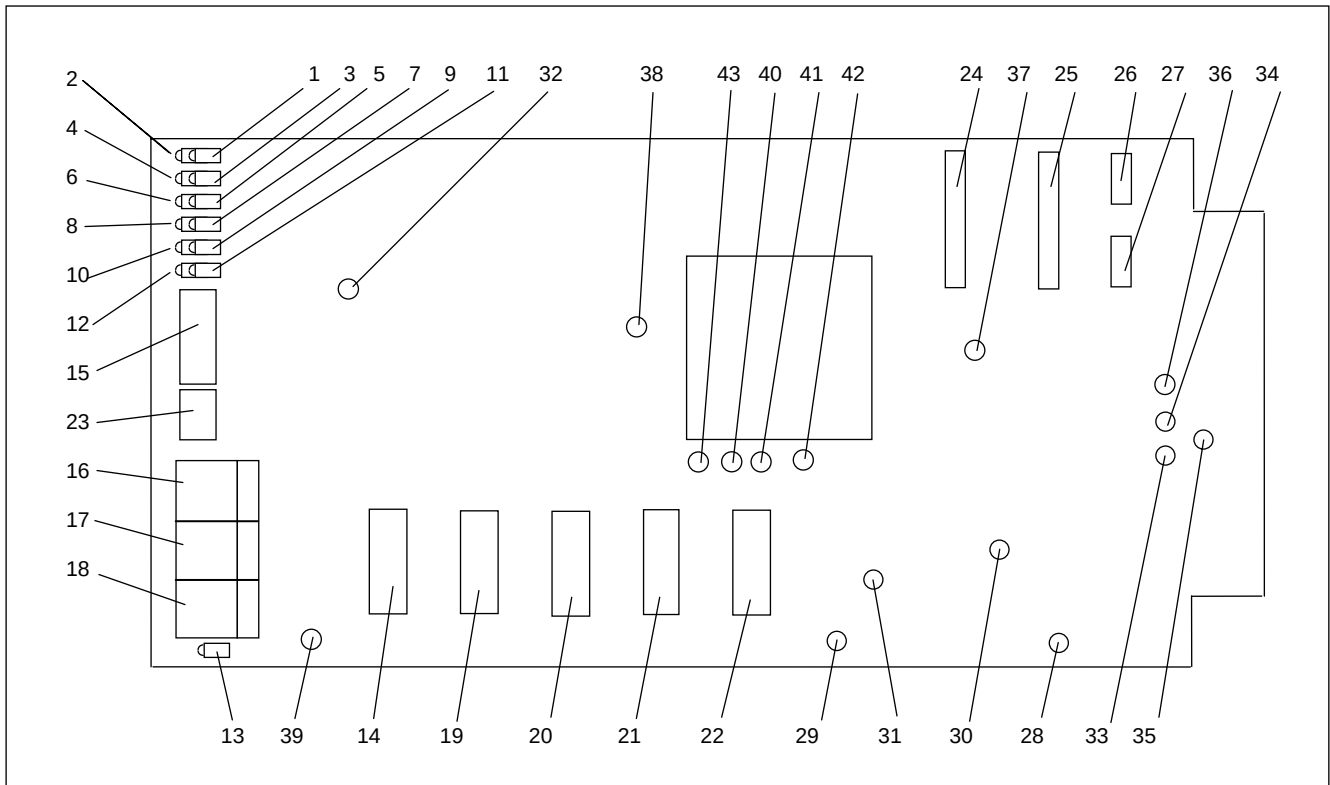

Figure 4. Controls and indicators, RFL NCM, Network Communications Module
6. Refer to Figures 4 & 5, and Table 1 for the location of DIP switches on the NCM module.